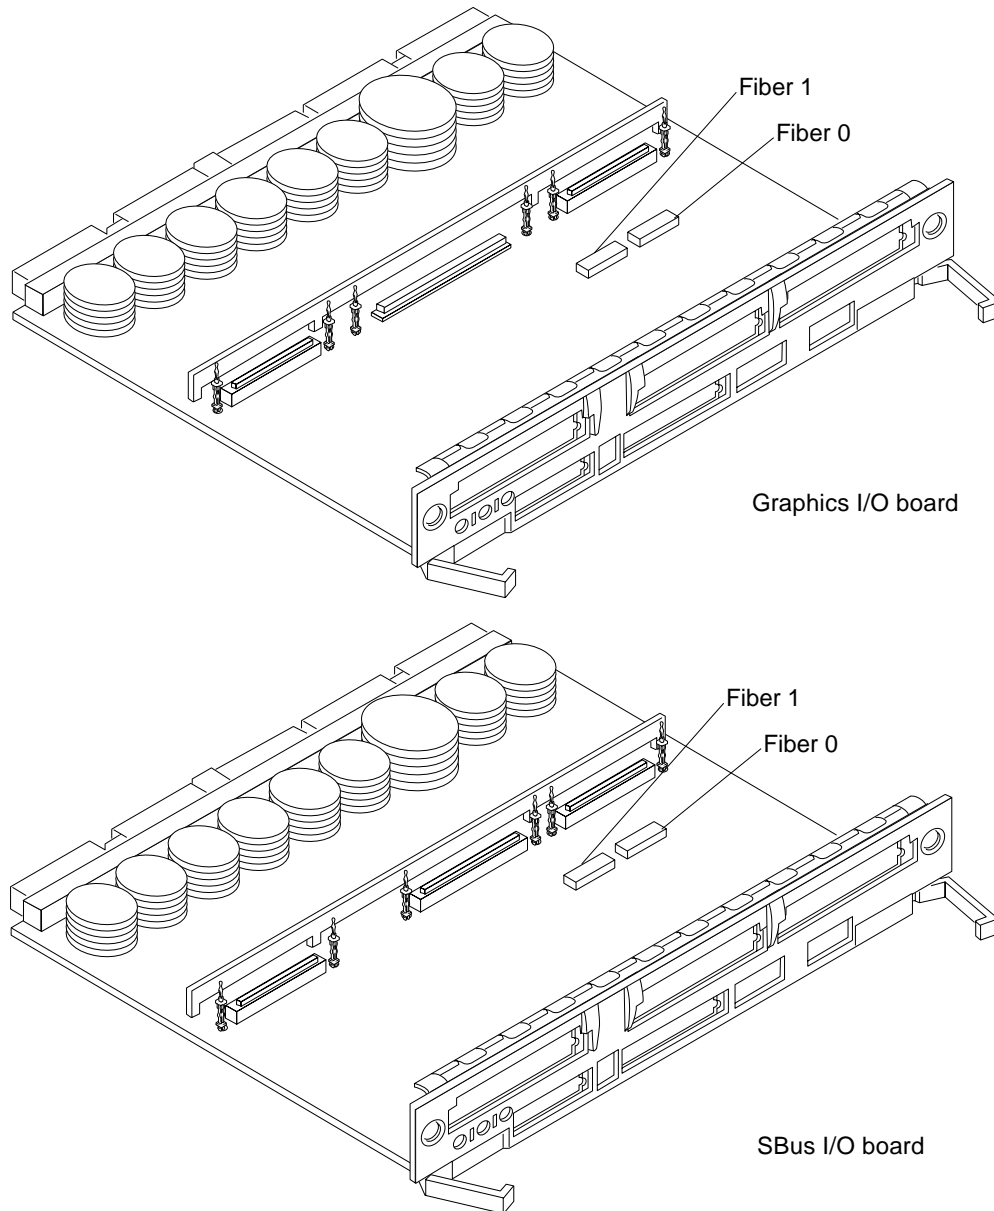

Figure 4-20 I/O Board Fibre Card Connector Locations
- 2. Locate the card to be removed. See Figure 4-20.**
See Figure 4-20 on page 4-27. You may need to remove the SBus cards over (or next to) this card to have enough room to hold onto the fibre card being installed.